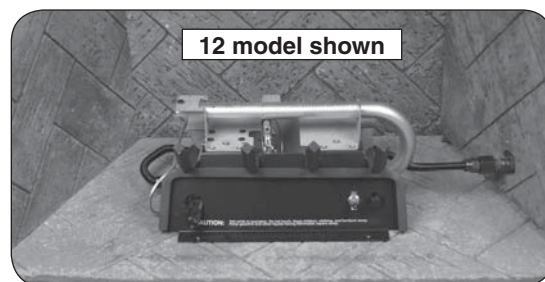

Fig. 16-2 Overall orientation
3. Place the burner system in the fireplace. Center the burner in the fireplace. (Reference Fig. 16-2 for orientation.)